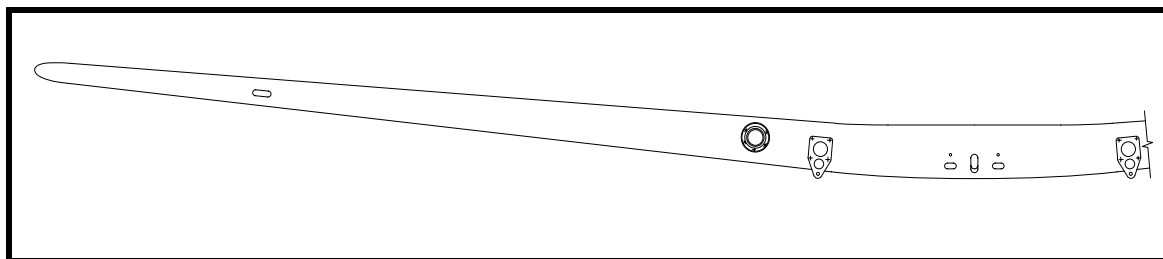

Figure 6
- ❑ Lay out the position of P/N 772-1 as shown in Figure 6. See Drawing No. 102. The centerline of P/N 772-1 should be perpendicular to the chord line drawn on the aft face of the spar.